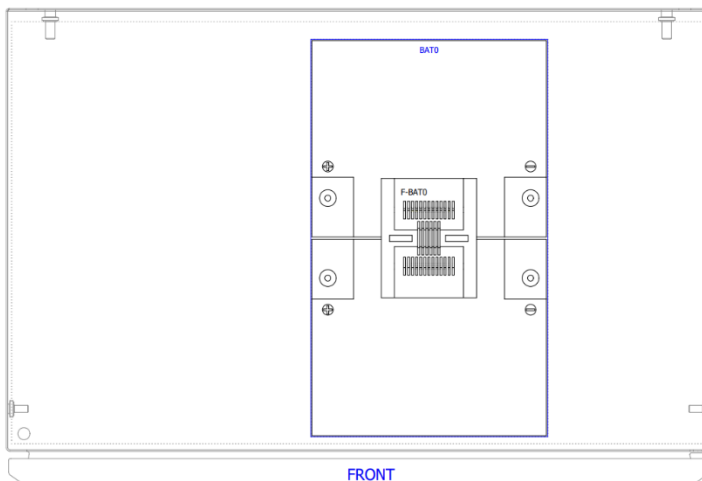

Figure 7 - Battery Orientation Inside Cabinet
2. Set the batteries in the bottom of the enclosure (See Figure 7)